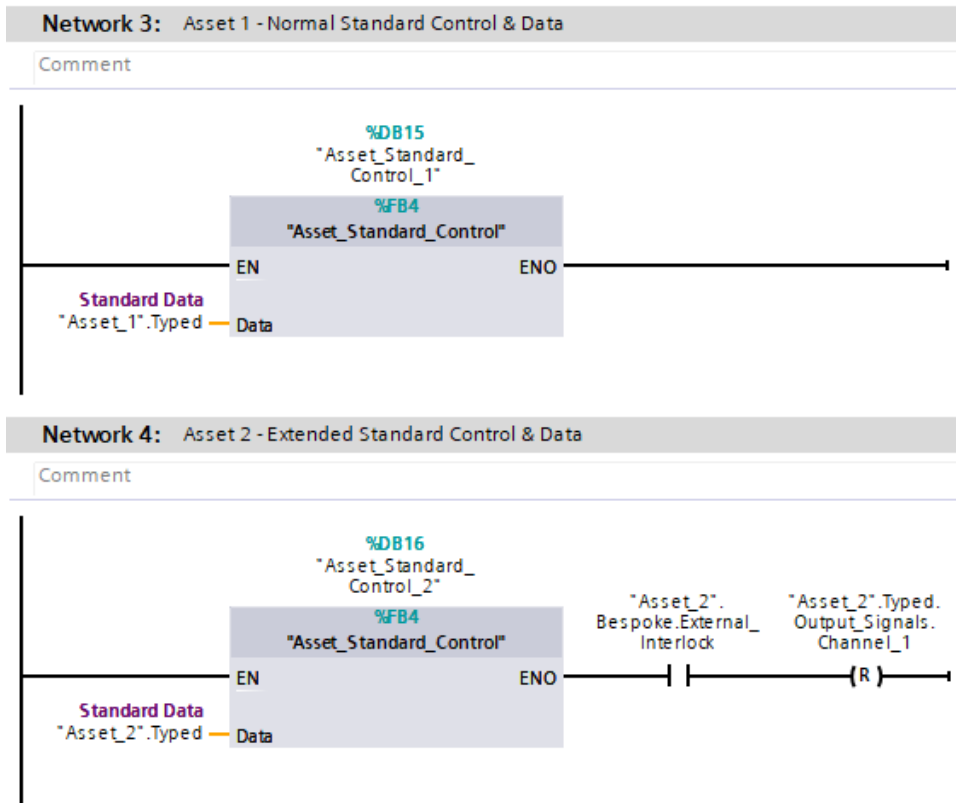

Figure 8.6 – Example of both extended control and data
*Figure 8.6* demonstrates this approach in a practical example. **Asset 1** on **Network 3** passes the standard UDT data from the `Asset_1` data block, through the InOut interface of the `Asset_Standard_Control` function block, and the block then performs its logic on the data and passes it back through the interface.